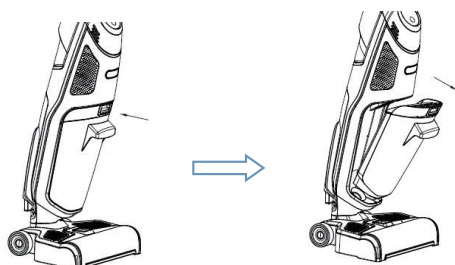

Fig.16
1. Grasp the fastener of dirty water tank and then press the button of the dirty water tank downwards to remove the dirty water tank (see Fig.16).